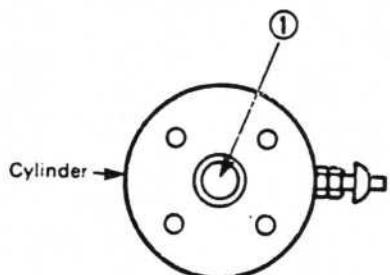

Fig. 18
4. Take out the centrally located cylinder pin (1 in Fig. 18 - yellow color - press lightly to remove).